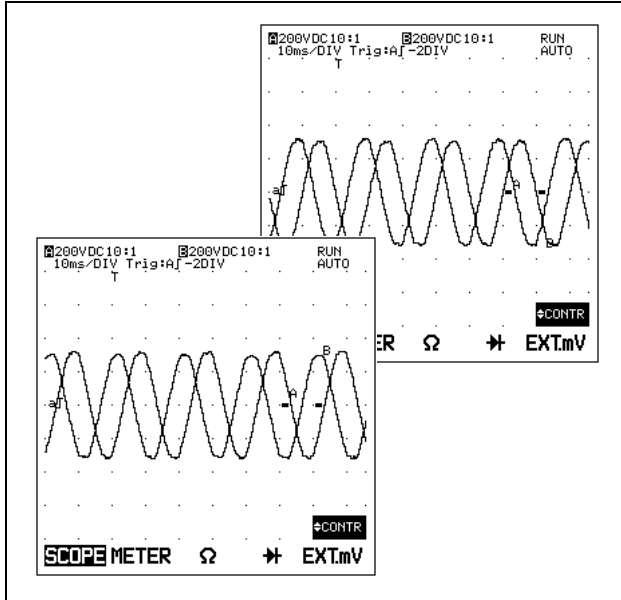

Figure 7-10 Phase Measurements
- ④ Turn circuit breaker on.
- ⑤ Measure connection 1 and connection 2 (see Figure 7-10.)
The upper display in Figure 7-10 shows that phase 2 (INPUT B) follows phase 1 (INPUT A). The lower display shows that phase 3 follows phase 1.